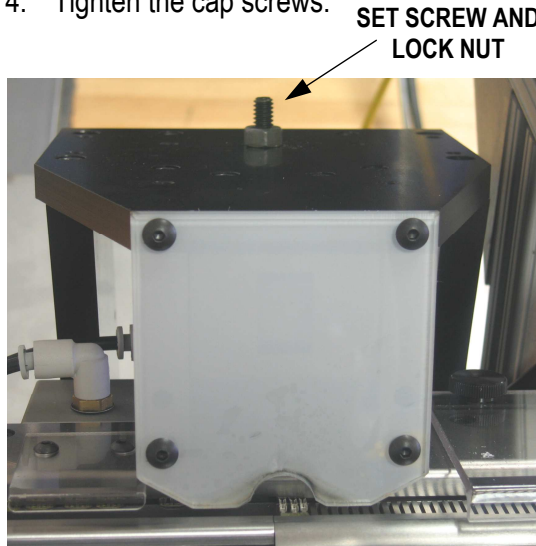

Figure 2-4
3. Then adjust the location shuttle adjustment base by turning the set screw on the edge of the stop block located to the right. Hold the connector against the shuttle blade while making this adjustment. Turning the set screw "in" moves the connector to the right and "out" moves it to the left. See Figure 2-4.